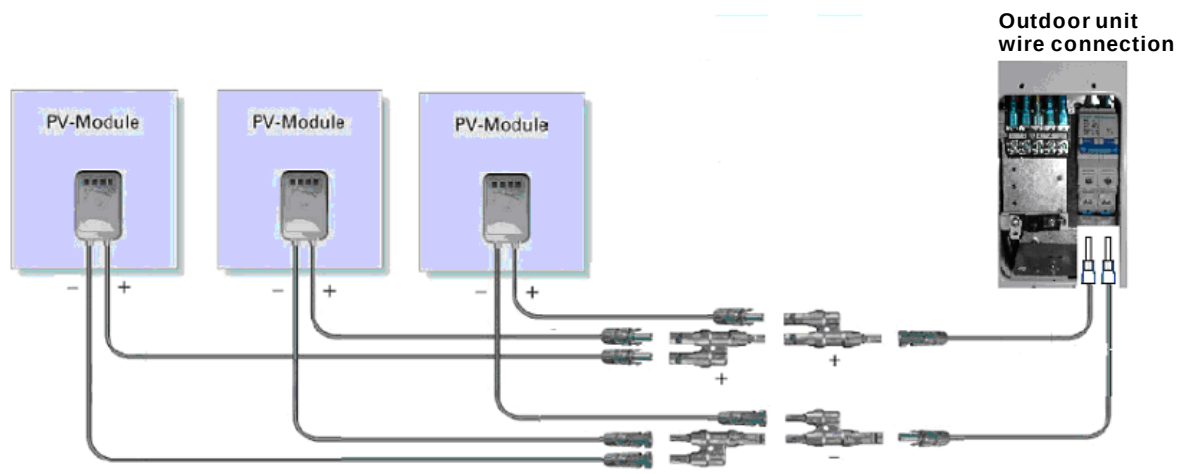

Fig.52a
- Connection method A: The distance between the modules is close, no need to use the extension cord(3 meters), see Fig.52a.